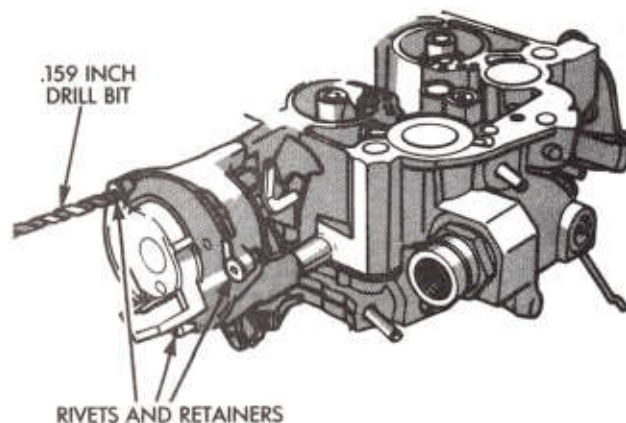

Fig. 25—Removing Choke Cover Rivets
(1) Support carburetor in holding fixture C-3886 to avoid throttle plate damage.
(2) Drill out three choke cover retaining rivets using a number 21 (.159") drill. Only drill enough to remove rivet heads (Fig. 25).
(3) Remove choke cover by pulling it straight out.
(4) Drive out remainder of rivets from choke housing using a suitable punch and small hammer.